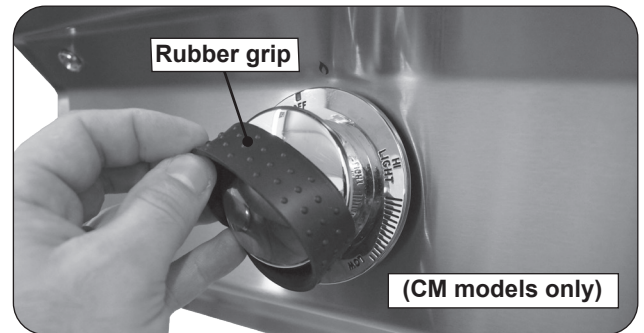

Fig. 38-1 Rubber grips removal (if applicable)
2. For CM models, remove the rubber grip from a control knob (see Fig. 38-1).